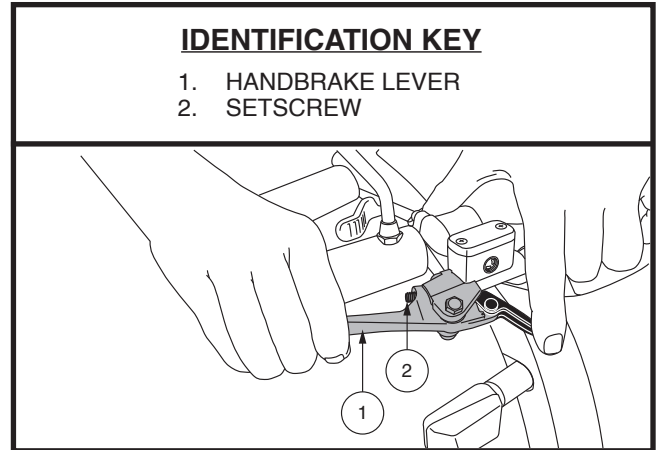

Figure 3. Handbrake Lever
**NOTE:** Handbrake effectiveness, which is how quickly the squeezing of the handbrake lever will bring your scooter to a stop, can be modified by tightening or loosening the setscrew located on the handbrake lever. See figure 3.